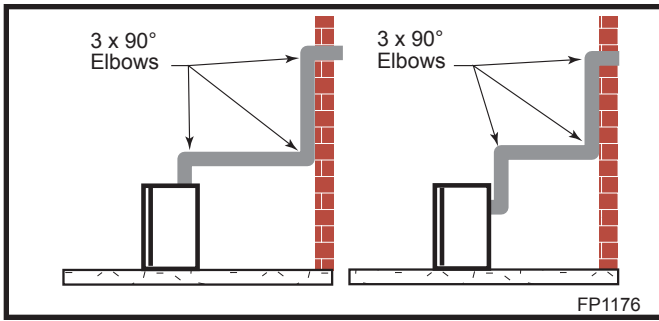
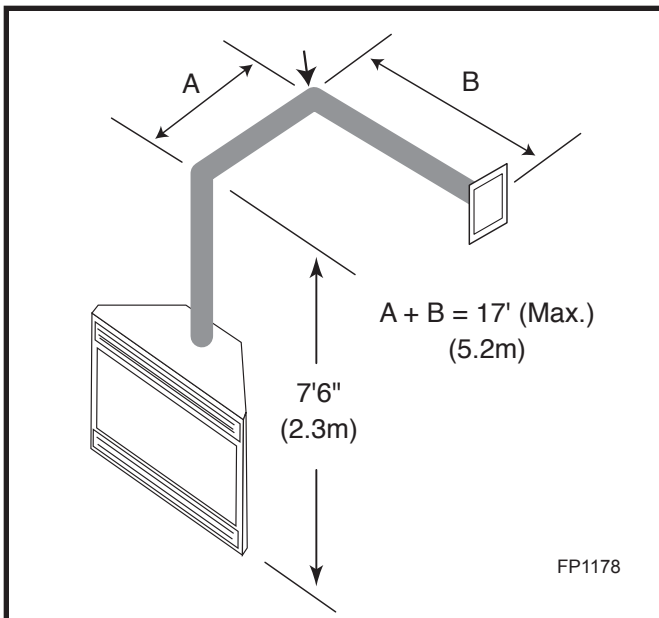

Fig. 27 Maximum three (3) 90° elbows per installation.
Fig. 29 Horizontal run reduction.
- The maximum number of 90° elbows per side wall installation is three (3). (Fig. 27)
- If a 90° elbow is used in the horizontal vent run (level height maintained) the horizontal vent length is reduced by 36" (914 mm). (Fig. 29, 30) This does not apply if the 90° elbows are used to increase or redirect a vertical rise. (Fig. 27)
In Figures 29 & 30, dimension A plus B must not be greater than 17' (5.2m)